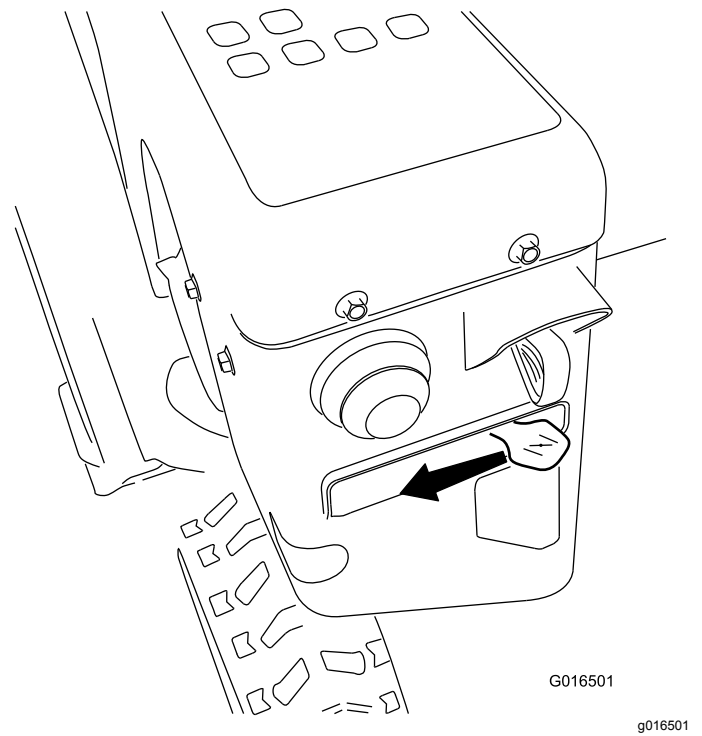

Figure 23
5. Move the choke to the CHOKE position (Figure 23).